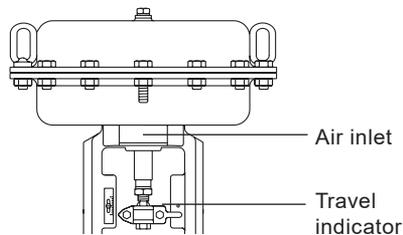

Fig. 7
2. For the pneumatic actuated control valve, remove the existing air supply and connect an independent air supply to the actuator (pressure not to exceed 87 psi g), allow the valve to fully open, remove the air supply from the actuator allowing the valve to close. Reconnect the original pipework (Figure 7).